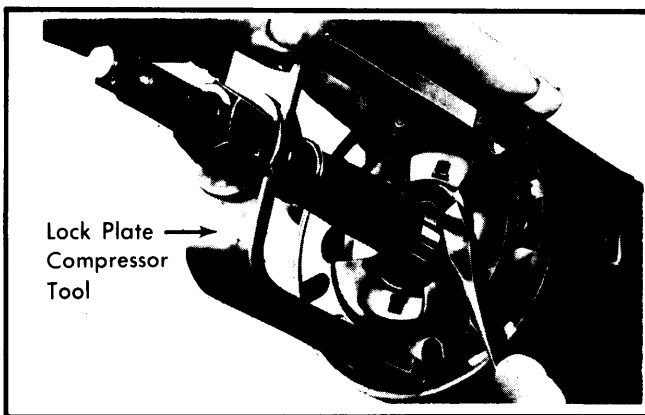

Fig. 2 Removing Lock Plate Snap Ring
4) Compress lock plate and unseat steering shaft snap ring using compressor tool (J-23653-A) and metric forcing screw (J-23653-4). See Fig. 2.